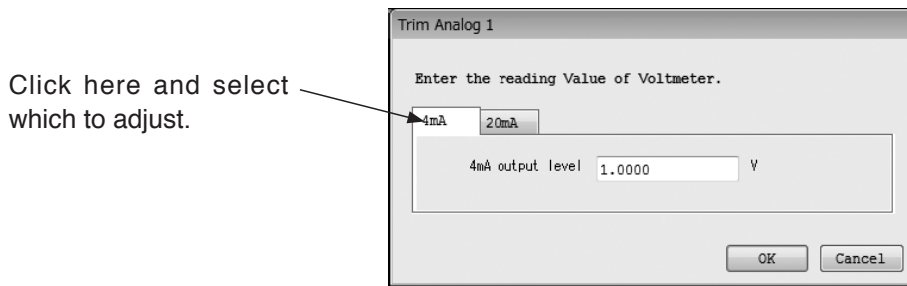

Fig.150
- ⑨ Select the 4mA side or the 20mA side for adjustment from the window that appears, as shown in Fig. 150. This description assumes that 4mA will be adjusted first, followed by 20mA. Input the value reading currently output on the meter and click the "OK" button.